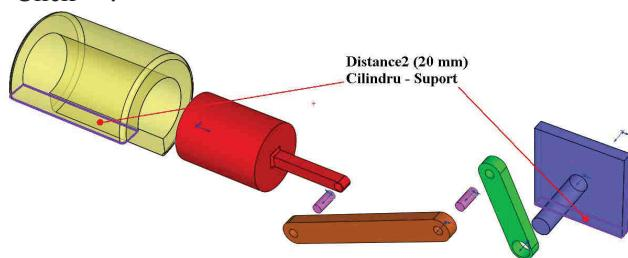

Fig. 17.23
- **Distance2** (20mm), fig. 17.23;